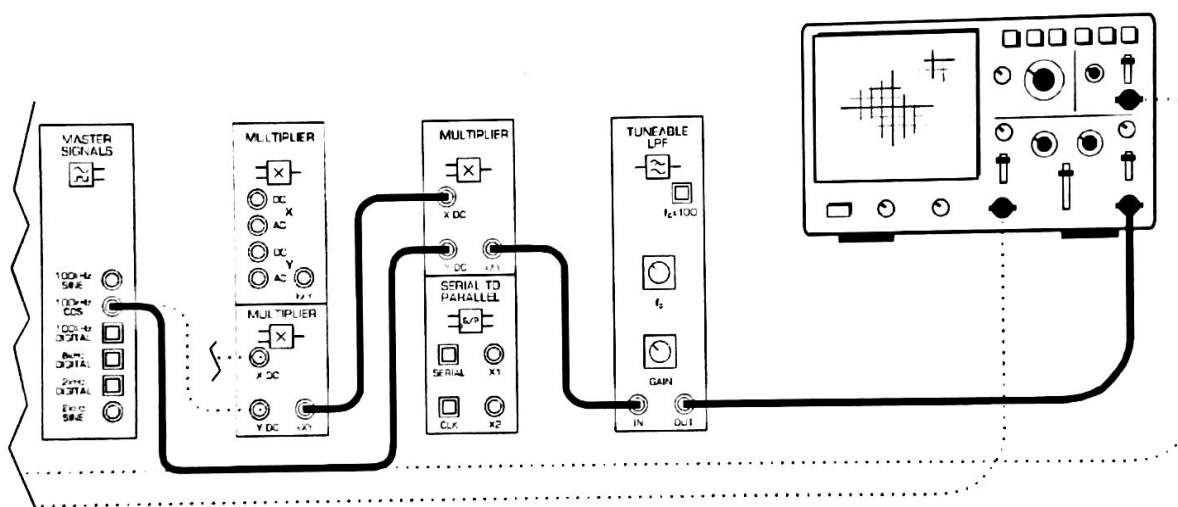

Figure 4
17. Modify the set-up as shown in Figure 4 below.